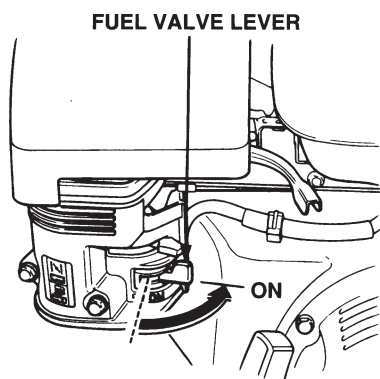

Figure 10. Fuel Shut-OFF Lever
1. Move the fuel shut-off lever (Figure 10) to the **ON** position.